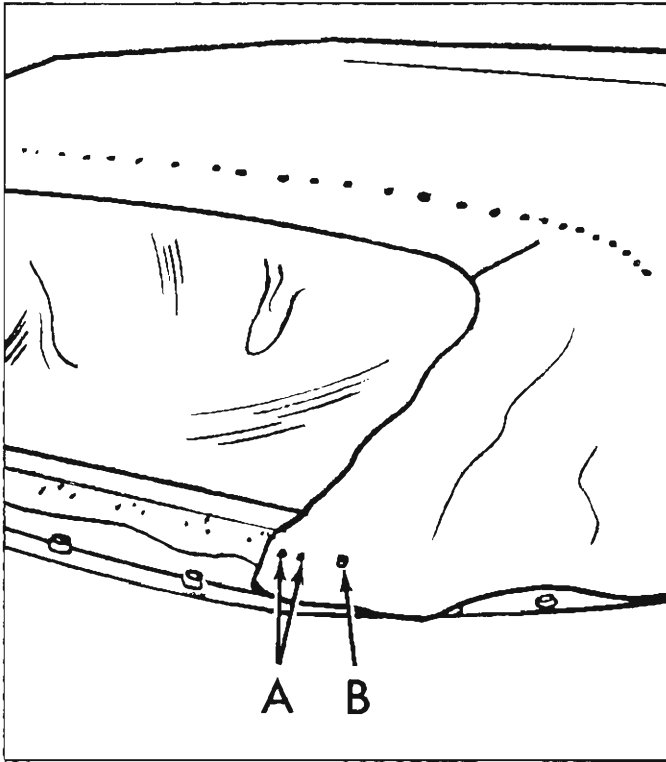

Fig. 72—Tacking Top Material
37. Using previously marked lines (ends of trim stick) as locating reference, tack top material to rear and rear quarter trim sticks. "A" in Figure 72 shows top material installed to rear trim stick at inboard edge.